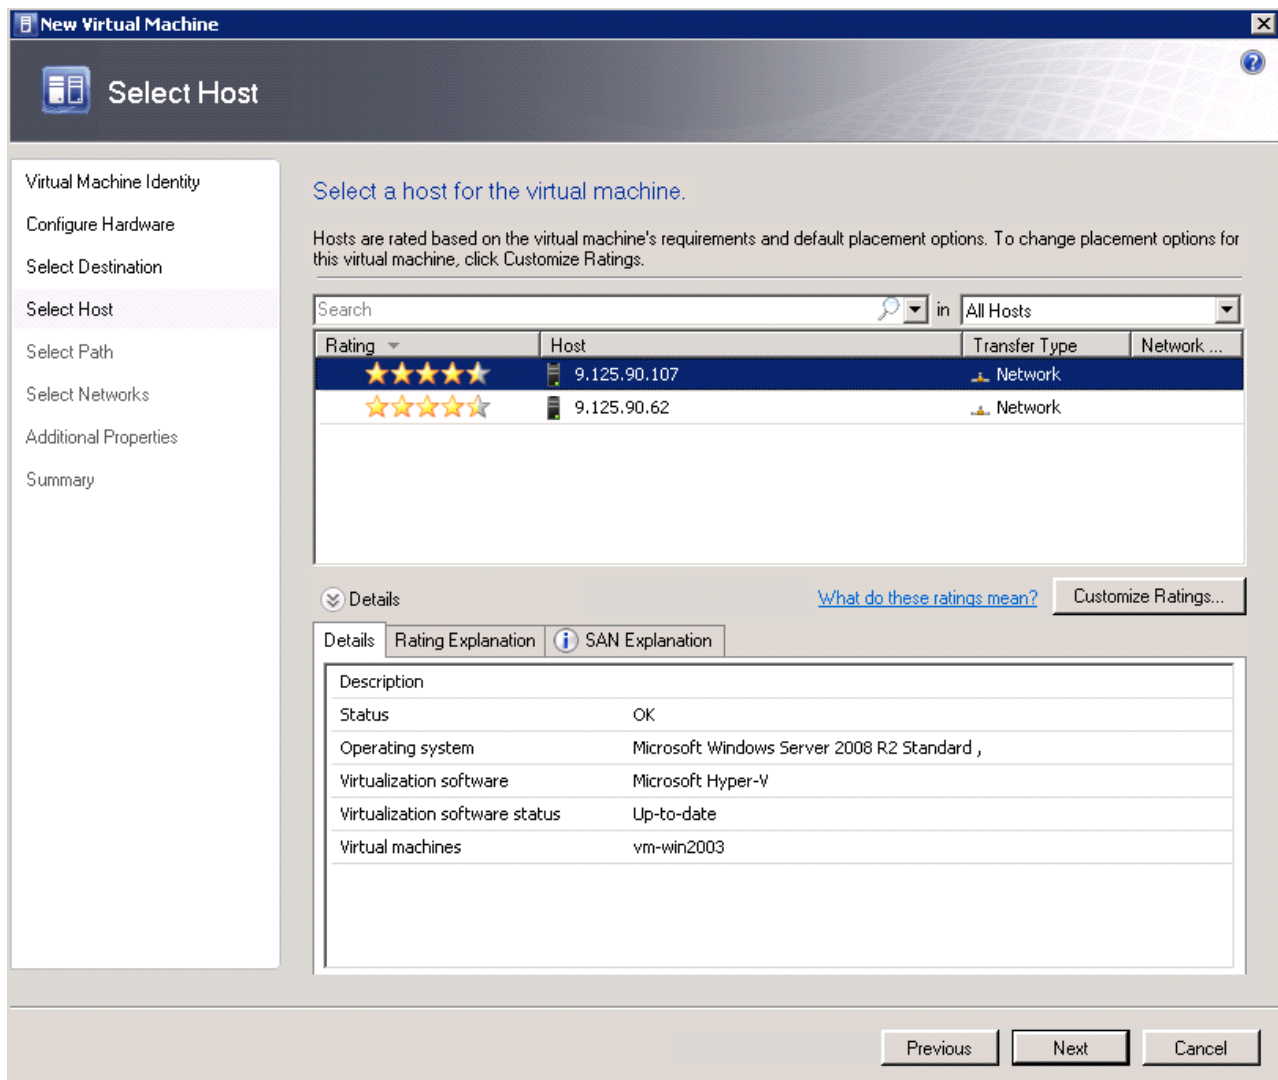

Figure 3-66 SCVMM New Virtual Machine: Select Host
5. In the Select Host window, select the host, as shown in Figure 3-66. Click **Next**.